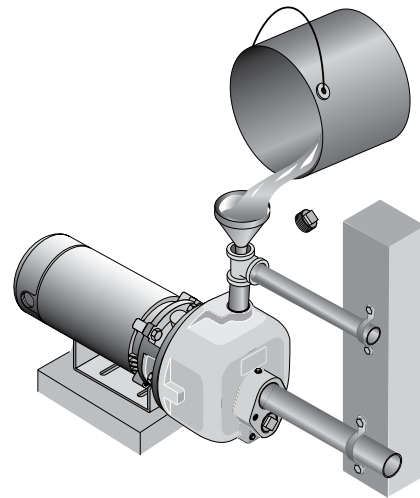

Figure 4: Fill Pump Before Starting
Step 3. Fill pump and suction pipe with water (Fig. 4).